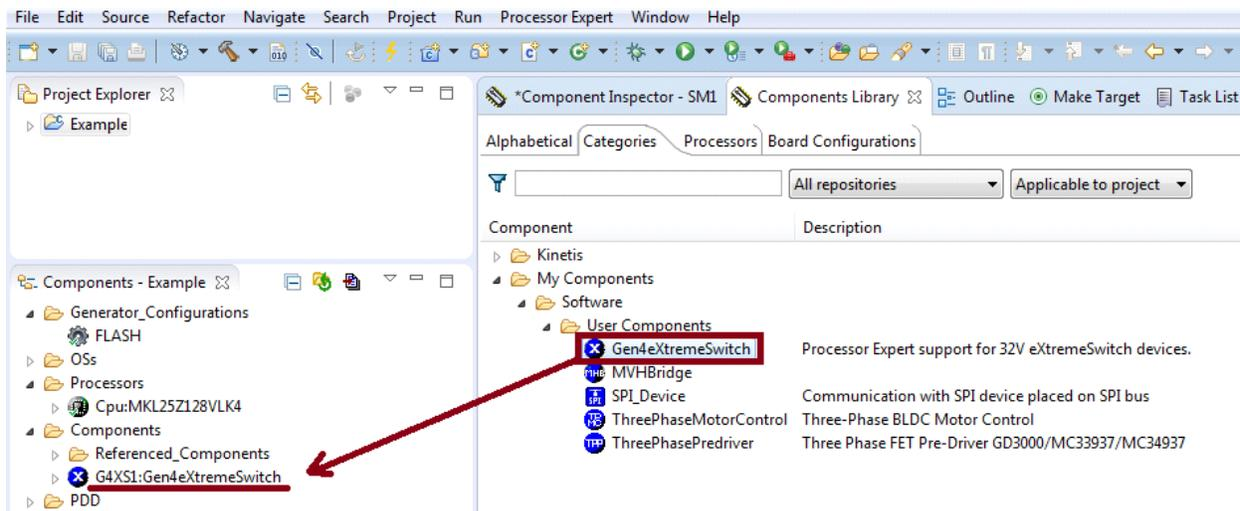

Figure 12. Add the Gen4eXtremeSwitch component to the project
1. Find the Gen4eXtremeSwitch component in the **Components Library** and add it into the project (see Figure 12). The Gen4eXtremeSwitch component is located in the workspace directory selected when importing the component.